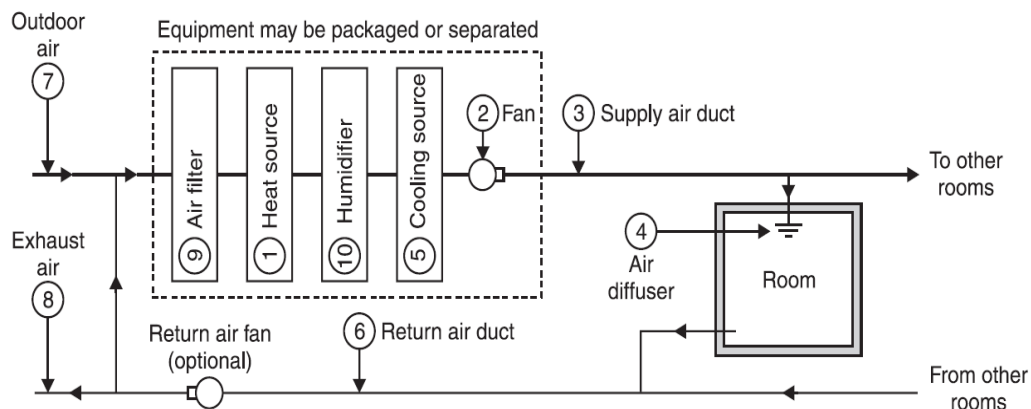

Fig. 3.4 Arrangement of basic components of an all-air heating and cooling system
A typical all-air heating and cooling system is shown in Fig. 3.4. Air is heated at the heat source (1), such as a furnace. It may also be a coil circulating hot water, or steam, heated by a boiler. The heated air is circulated by a fan (2) and travels to each room through supply air ducts (3). The supply air enters the room through outlets called air diffusers or registers (4) that are designed to provide proper air distribution in the room. When the warmed supply air enters the room, the room is heated. A humidifier (10) may also be included to maintain a comfortable room humidity in winter.